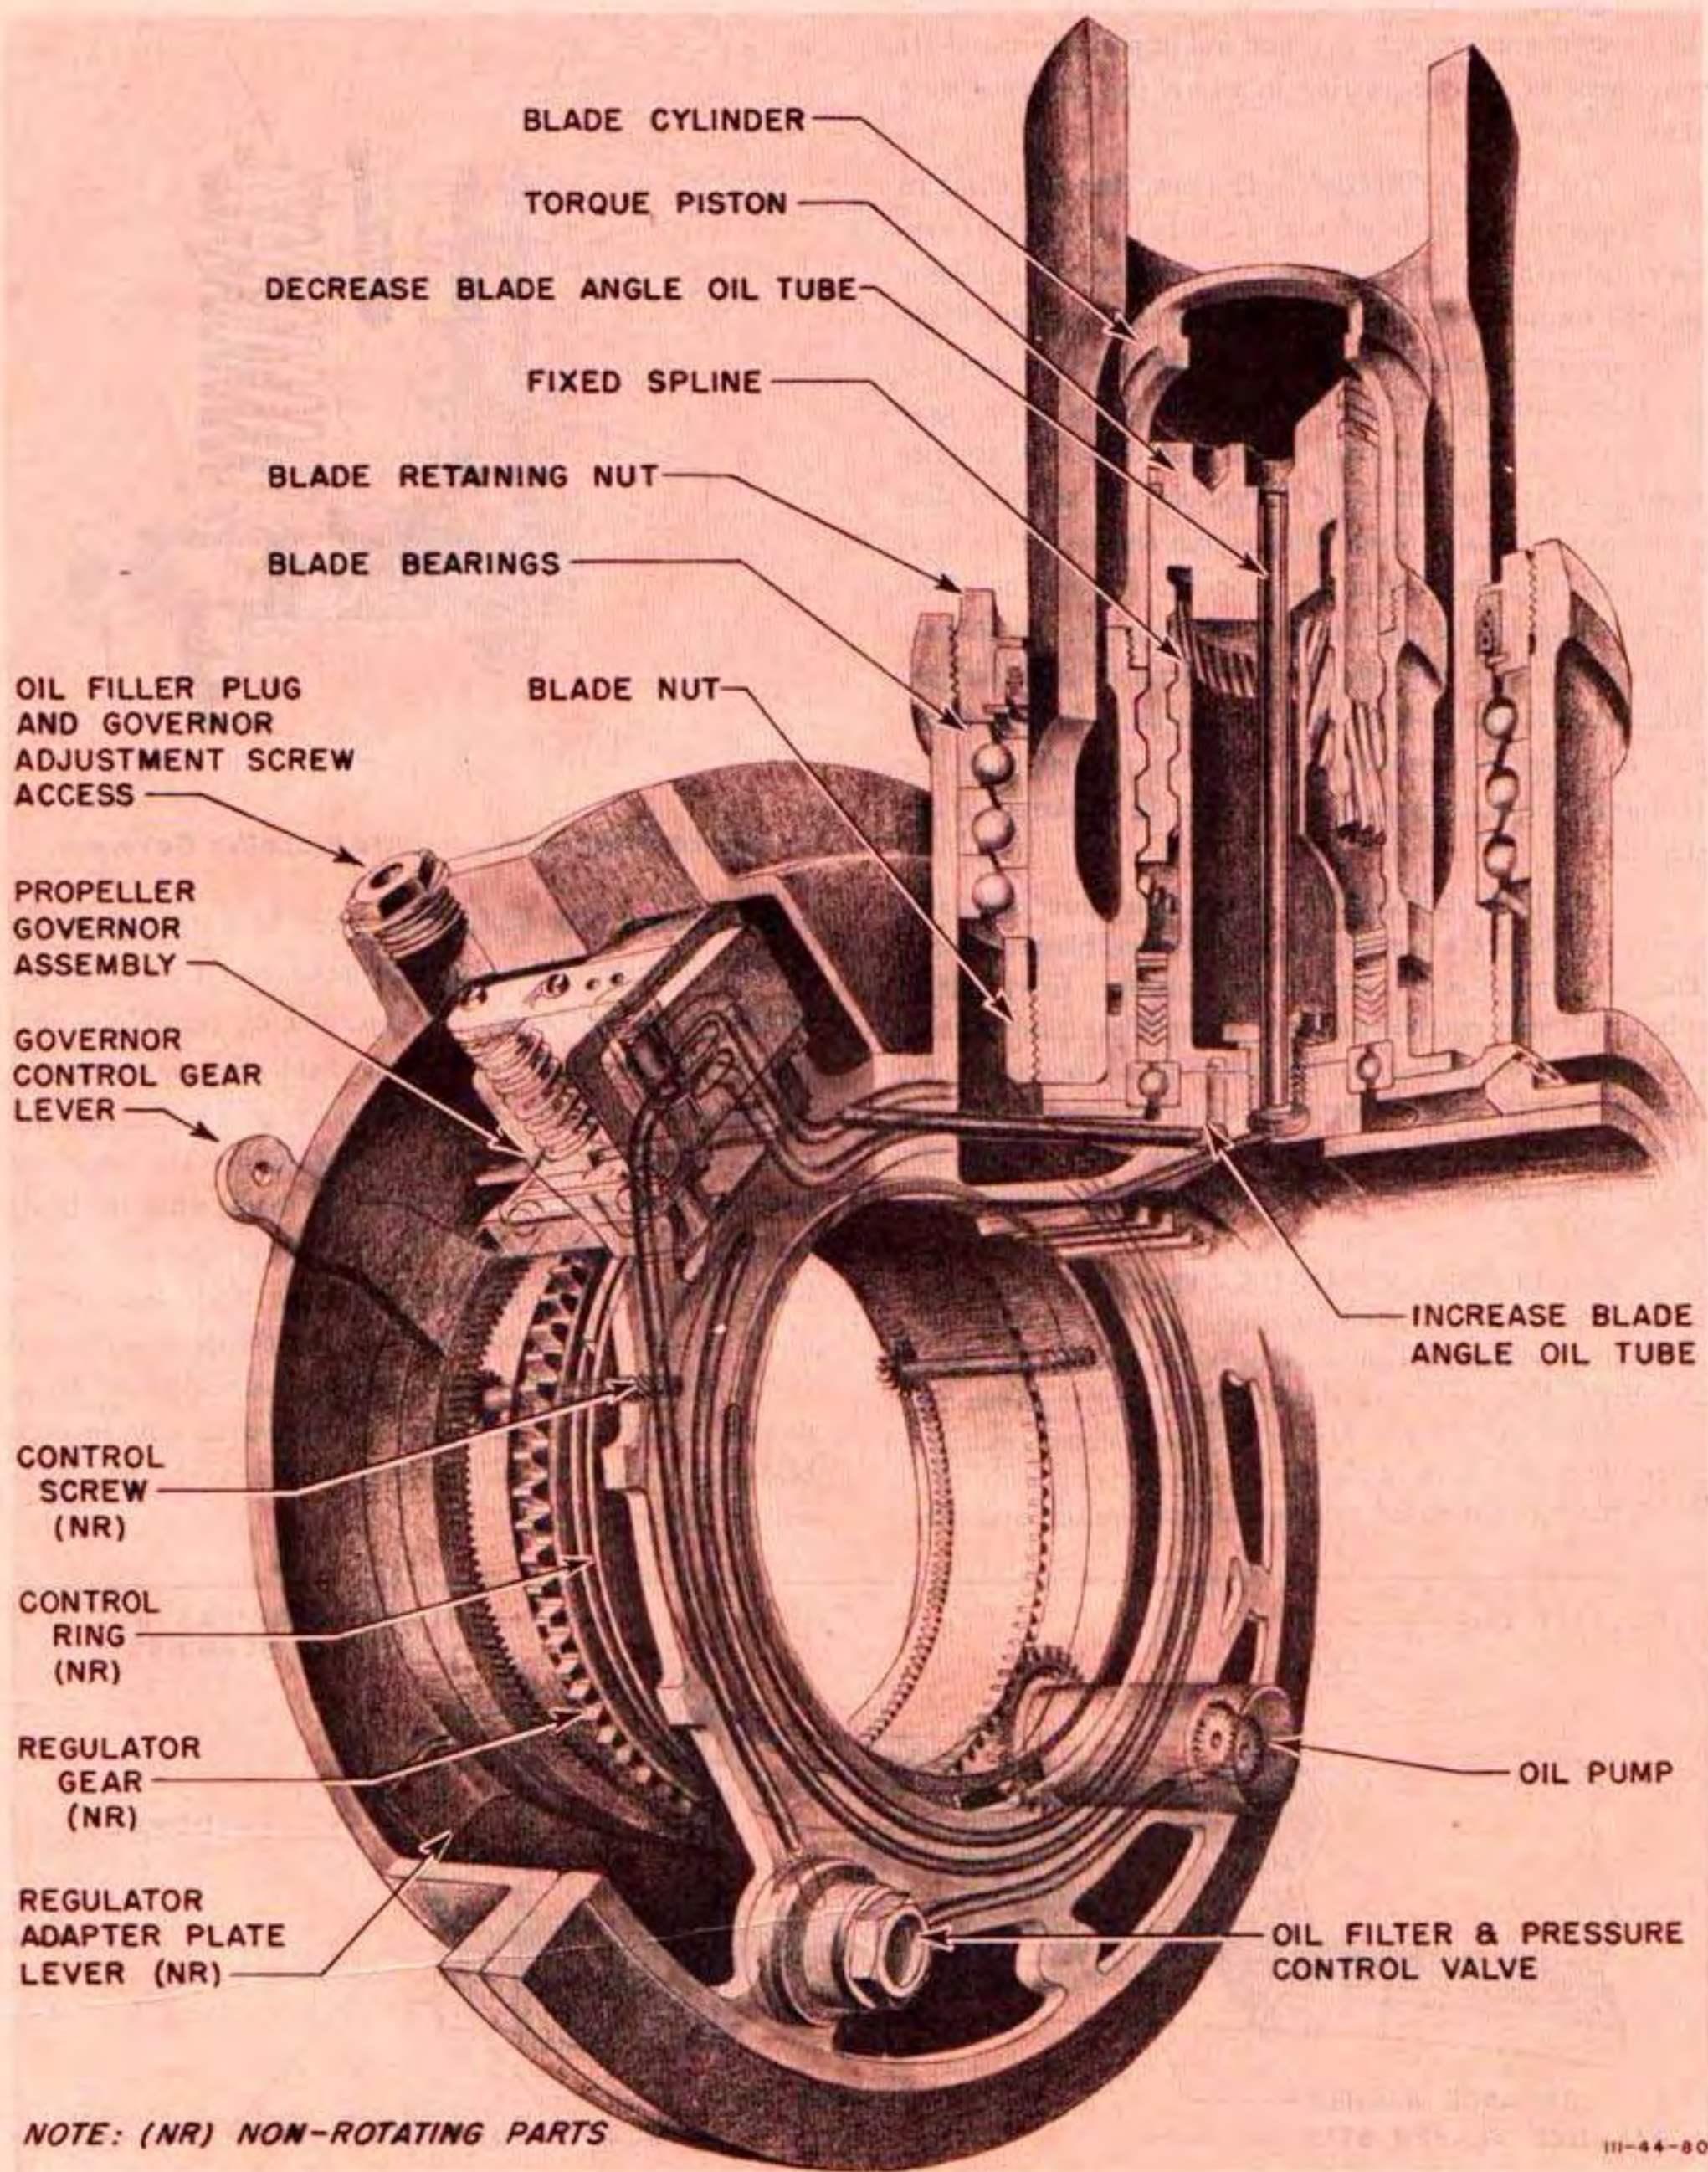

Figure 236F—Operation of Aero products Propeller
b. PRINCIPLE OF GOVERNOR OPERATION. (See figure 236F.)—As the governor rotates with the regulator unit, centrifugal force will tend to throw the governor piston (distributor valve) outward from the center of rotation. Thus, when a certain rpm is attained, the centrifugal force on the piston will be equalized by the spring load on the lever, neutralizing the governor. At a speed below this rpm, the spring will force the piston to move inward, allowing oil pressure to reduce the blade angle and bring the rpm up to the balance point; above this rpm, the piston will move outward, distributing the oil so as to increase the blade angle and decrease the rpm. In this way the governor maintains constant engine speed. A control mechanism and a stationary gear control the governor and operation of the oil pump. On the rear of the regulator is an adapter plate. A lever on the rear of the plate engages a stop assembly which is attached indirectly to the studs on the engine reduction gear case. The forward side of the adapter plate acts as a bearing surface for the control gear and lever. The adapter plate is screwed to the adapter ring and regulator gear to form a stationary assembly. The cockpit propeller control rod is attached to the
(c) TORQUE UNITS.—The torque units consist of a steel fixed spline, a bronze piston, and a steel blade cylinder. The fixed spline is attached to the hub by a fixed hollow spline bolt that extends outward through the piston head, providing an oil passage to the outer side of the piston. An offset hole at the base of the fixed spline permits passage of oil to or from the inner side of the piston. The torque unit mechanism converts oil pressure into turning action. (See figure 236F.)